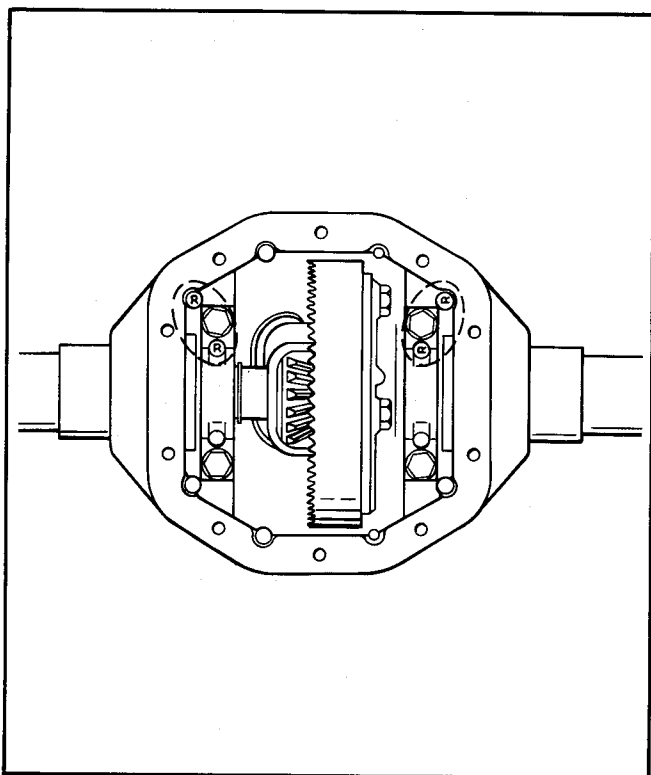

Figure 22 - Bearing Cap Identification
- g. Remove differential bearing cap bolts (4), Figure 22. Bearing caps are marked for location identification along with the carrier. When reassembling, the caps must be installed in their original position. Remove bearing caps (5).